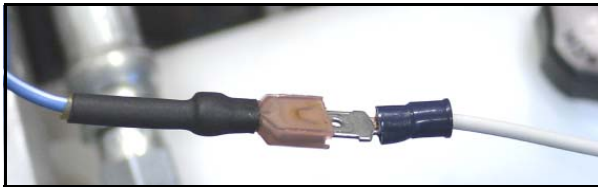

Figure 5
10. Under the pump cover, disconnect blue/white wire from B (Float/DP) coil; insert blue/white wire with male terminal from the 4-site harness into the female terminal attached to blue/white wire (See Figure 5.).